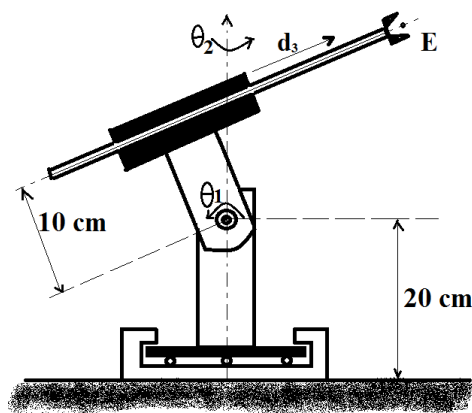

Fig.Q4C
4B. For the 3DoF manipulator arm shown in Fig. Q4C, design a trapezoidal velocity profile for the second revolving joint. The initial and final positions of the end effector (E) are expressed by the given homogeneous transformation matrices T_s and T_G respectively. The time taken for traversal is 4 seconds.